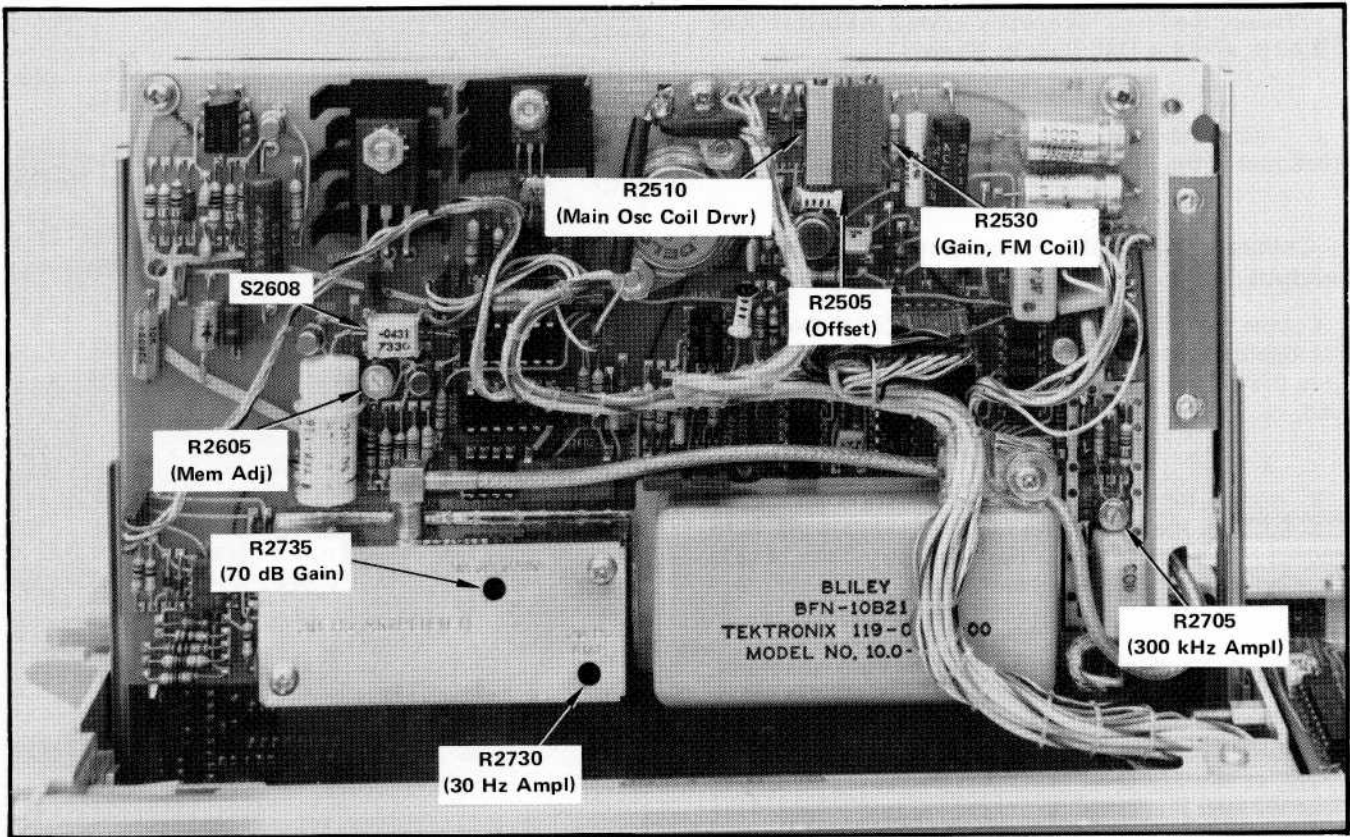
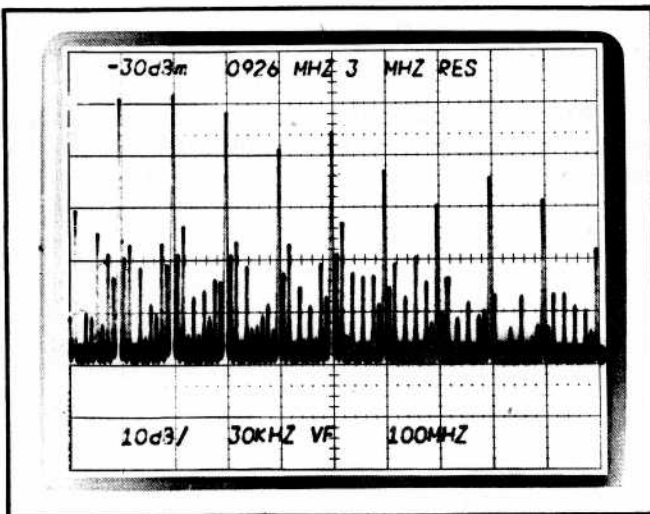

Fig. 4-7. Location of the YIG Driver and Voltage Memory adjustments.
Fig. 4-8. 100 MHz markers on a 100 MHz/DIV frequency span.
c. Adjust the YIG oscillator driver gain with R2510 (Fig. 4-7) to calibrate the 100 MHz/div frequency span at 1 marker/division (see Fig. 4-8).
d. Switch the FREQ SPAN/DIV to MAX and increase the RF Attenuator setting to 60 dB to attenuate the time markers. Adjust the offset to the YIG oscillator main coil with R2505 (Fig. 4-7) so the 0 Hz marker is at the left edge or start of the display.
f. Adjust the FM coil driver gain with R2530, (Fig. 4-7) to calibrate the 1 MHz/div frequency span.